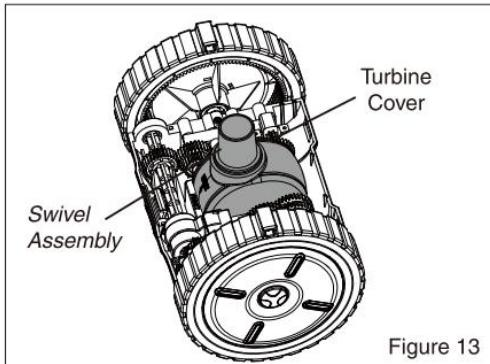

Figure 13
4. Pull the turbine cover straight up and off of the cleaner body. Set the turbine cover aside. See Figure 13.
6. Replace the turbine cover with the swivel assembly oriented towards the front of the cleaner, See Figure 13.